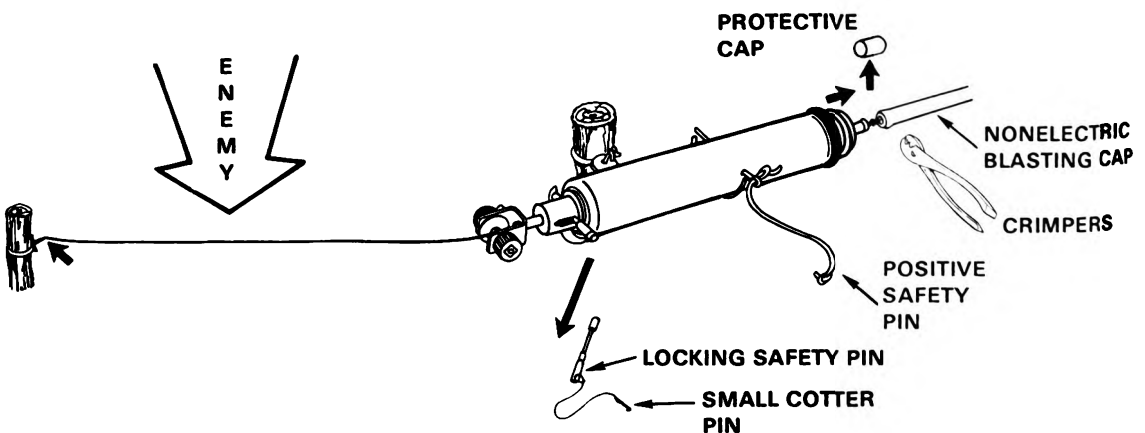

Figure 2.
(1) Pull method. A pull 6 to 10 pounds on taut trip wire will cause device to fire.
(2) Tension-release method. Release of tension (cutting of taut trip wire) will cause device to fire.
b. To Install the M3 Firing Device (figure 2).
(1) Remove protective cap.
(2) With crimpers, attach blasting cap to standard base. *Crimper jaws should be placed no farther than 1/4 in. from open end of blasting cap.*
(3) Attach firing device assembly to anchor (must be firm enough to withstand pull of at least 20 pounds).
(4) Secure one end of trip wire to anchor and place other end in hole in winch.
(5) With knurled knob, draw up trip wire until locking safety pin is pulled into wide portion of safety pin hole.